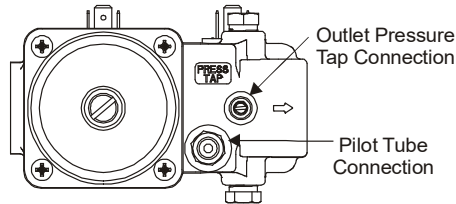

Figure 4: Underside of Valve with Direct-Acting Regulator
9. Connect the pilot tubing (when necessary) to the threaded pilot connection on the underside of the valve body (see Figure 4) and run the tube to the pilot burner within the appliance. Connect the pilot tube to the valve with an optional compression fitting.
10. If you desire to measure the outlet pressure, use the bottom cast pressure test fitting (see Figure 4) or use the Y99AX pressure test fitting (see Figure 3) and an approved pipe joint compound on the male threads and replace the marked pressure tap plug, which is optional on the inlet or outlet of the valve body. Screw the fitting into either side of the valve, which ever side is convenient, replacing the pressure tap plug.
13. If installing a valve with a pressure regulator, set the valve to the desired outlet pressure. See the Regulator Adjustment section for specific adjustment procedures. After setting the valve outlet pressure, ensure that the leak-limiting seal cap is replaced (see Figure 4).